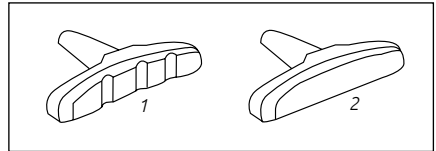

Fig.:44
- Check whether the wear limit of the brake pads (see "Fig.:44 (1)") and rim has been reached.